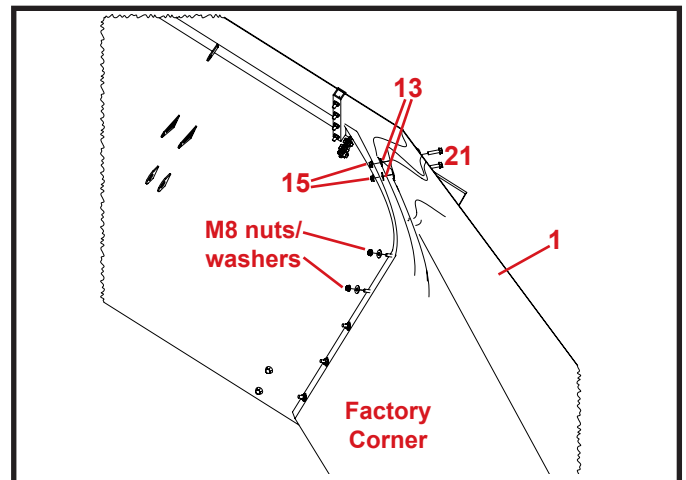

Figure 5
Attach the Tip-Up Corner (1) to the Panel Bolt Bracket (8) using the 5/16" x 1 1/4" flange bolts (21), 5/16" washers (13), and 5/16" flange nuts (15) provided. Remove the M8 nuts and washers from the second and third bolts on the factory corner. Install the Tip-Up Corner (1) on the second and third bolts and replace M8 nuts and washers. Repeat on opposite side. See Figure 5.